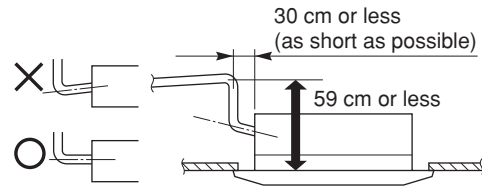

Fig. 3-12
- If it is necessary to increase the height of the drain pipe, the pipe can be raised a maximum of 59 cm from the bottom of the ceiling. Do not raise it any higher than 59 cm, as this could result in water leaks. (Fig. 3-12)